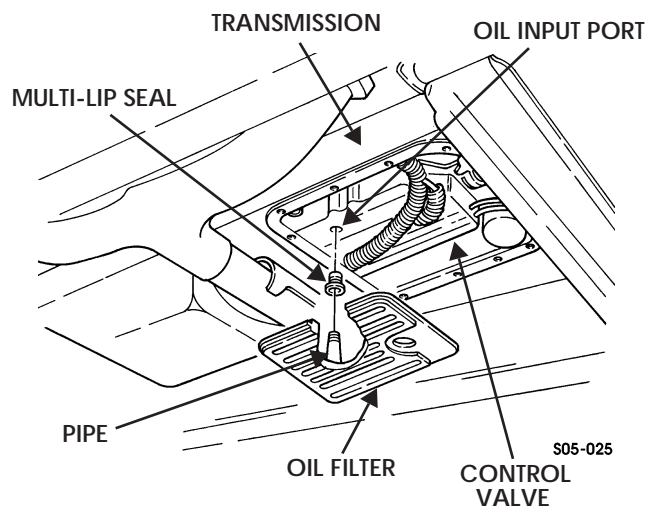

Figure 5-75: Oil Input Port
1. Remove oil filter from transmission. Discard oil filter (Figure 5-75).
1. Rotating oil filter, install pipe on filter in multi-lip seal. Align filter with control valve (Figure 5-75).